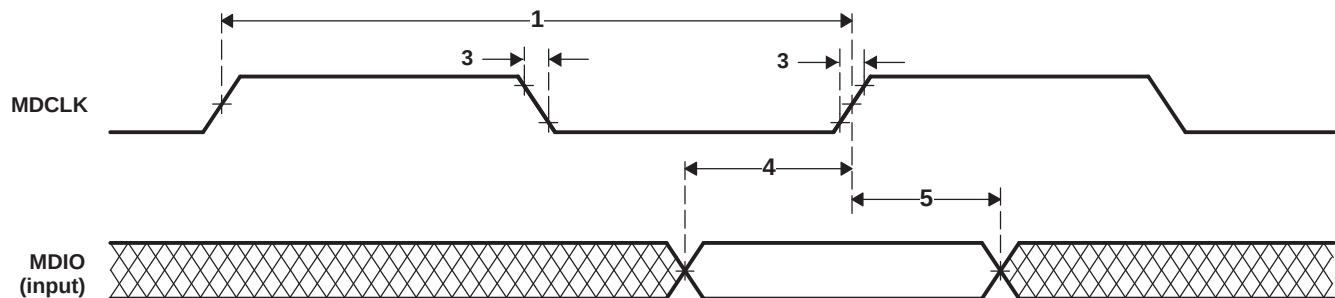
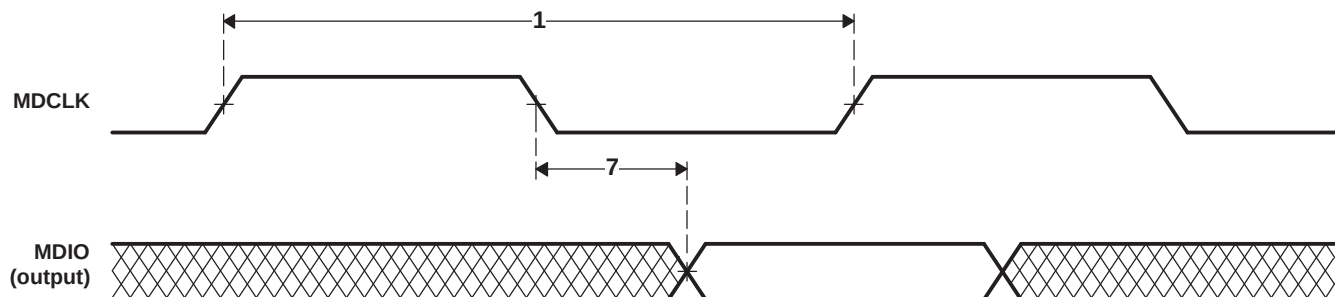

**Figure 7-57. MDIO Input Timing**
**Figure 7-58. MDIO Output Timing**
**Table 7-80. Timing Requirements for MDIO Input (see Figure 7-57 and Figure 7-58)**
**Table 7-81. Switching Characteristics Over Recommended Operating Conditions for MDIO Output (see Figure 7-58)**